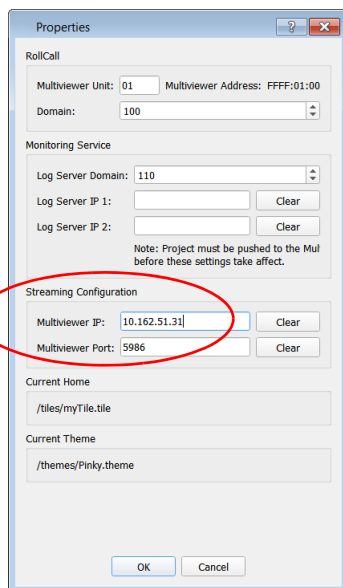

Fig. D-17: Multiviewer > Properties, Streaming Configuration
- Note:** The displayed source path is automatically generated by Orbit from information in the **Multiviewer > Properties** window, see Figure D-17.